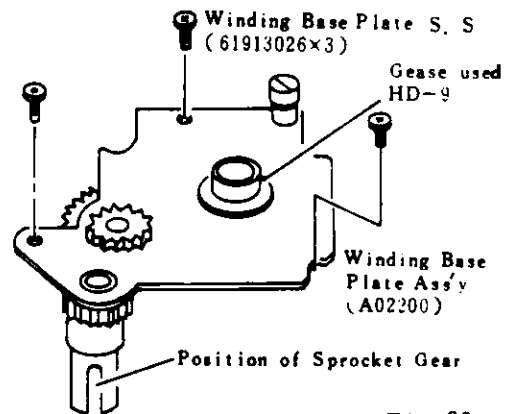

Fig 28
- d) Make position with Sprocket Gear as shown in (Fig 28) and while maintaining Sprocket position, carefully install winding Base Plate Ass'y (A02200) into the camera body. And tighten three Winding Base Plate Set Screws (61913026×3).